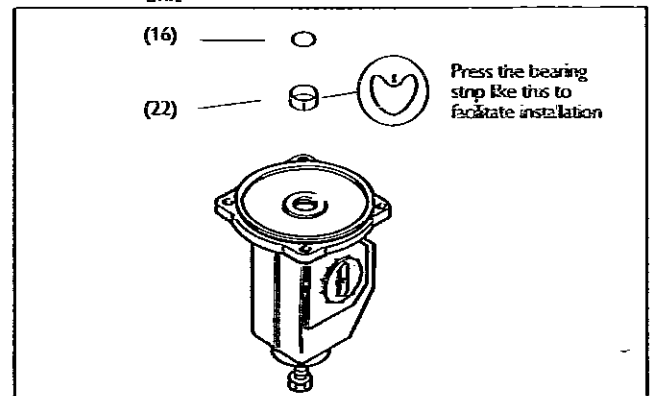
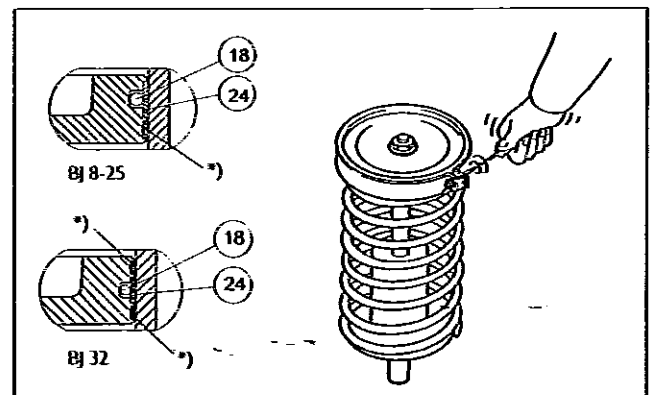
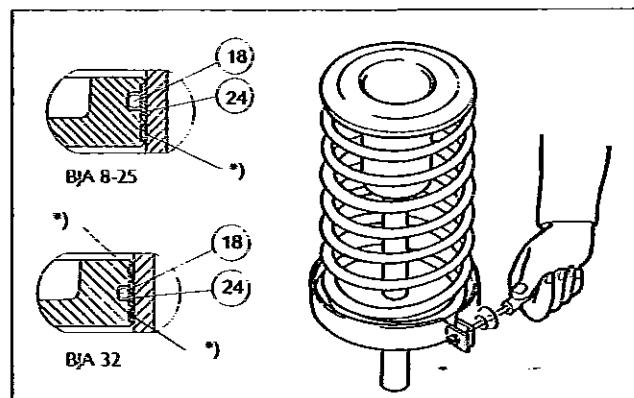

Fig. 11. Mounting the piston rod bearing and seal
Fig. 12. Tightening piston seals with a tie ring
Fig. 18. Tightening piston seals with the tie ring
- Lubricate seal space and new O-ring with Unisilikon L250L or Molykote III. Install new bearing and O-ring, see fig 11.
- Install the O-ring (18) located under the piston seals.
- Place piston seals (24) around the piston so that the ends of the strips are located at opposite sides. Tighten the strips with a tie ring as in Fig. 12. Strips indicated with an asterisk can be cut 1.5 to 3 mm shorter to facilitate assembly.
- Remove the cylinder base side stop screw (27).
- Remove cylinder fastening screws (31) from the cylinder base (6) side. Lift the cylinder off together with the end.
- Remove housing cover (2).
- Turn the linkage enough to expose the bearing unit fastening screw (29). Open the screw.
- Remove piston rod seal (16) and bearing (22). Clean the seal space.
- Lubricate seal space and new O-ring with Unisilikon L250L or Molykote ill. Install new bearing and O-ring, see fig 11.
- Place piston seals (24) around the piston so that the ends of the strips are at opposite sides. Tighten the strips with a tie ring as in Fig. 18. Strips indicated with an asterisk can be cut 1.5 to 3 mm shorter to facilitate assembly.